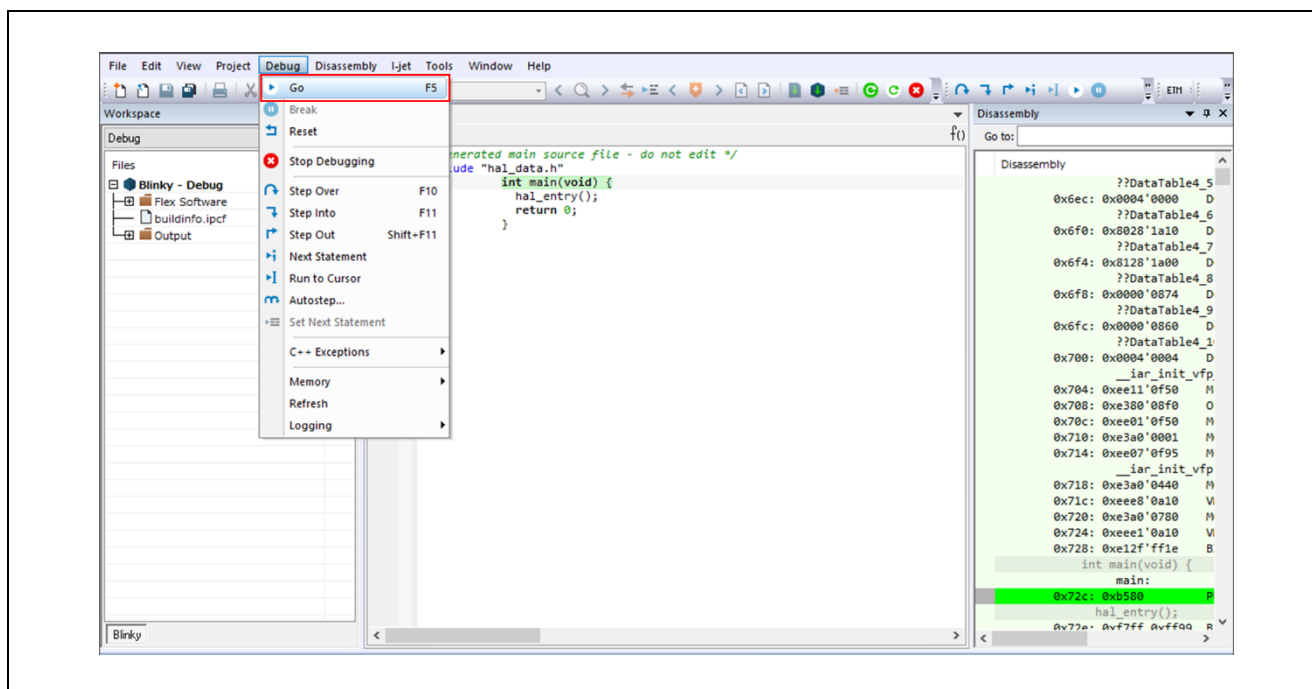

Figure 79 : Go Button
5. Run the program of primary project as shown in Figure 79 to copy the binaries of the secondary and subsequent projects to the internal RAM in the primary project. After the primary project reaches **hal_entry** in **main.c**, another core is executed. If the LEDs are blinking, proceed to the next step.